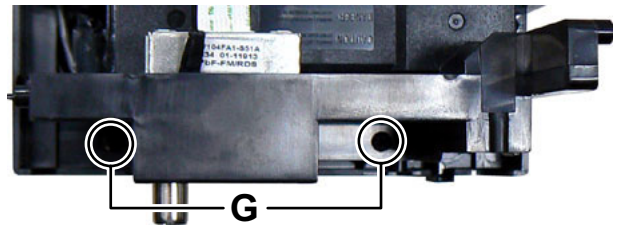

Fig.7
### 3.1.4 Removing the CD mechanism (See Fig.7, 8, 9, 10, 11)
- (1) Remove the two screws **G** attaching the Back PCB bracket. (See Fig.7)